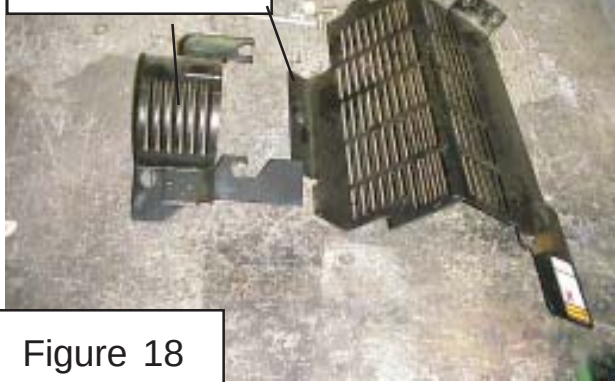

Figure 18
1. Reinstall LH Side Engine Guards. The left hand side engine guards need to be reinstalled using the original hardware (See Figure 18). These guard are to gain access so the pulley adapter could have been installed as shown (See Figure 19).